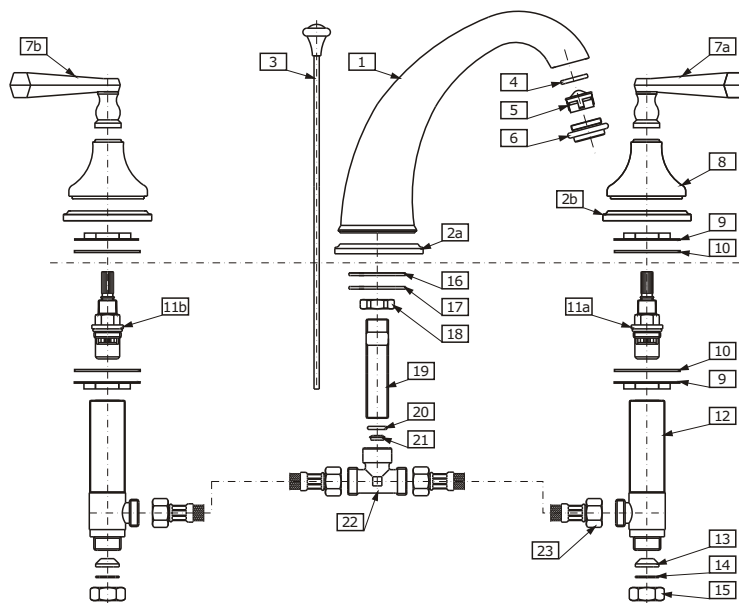
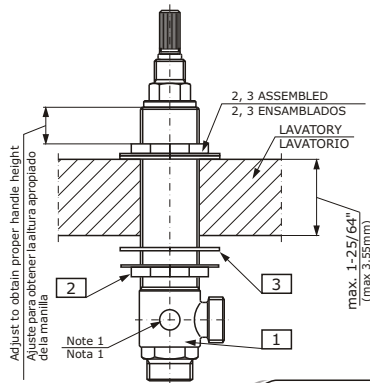

FIG. 1
FIG. 2
- ➔ Spin the bottom valve mounting nuts (2) all the way down the valve and remove the top nut and washers. Insert valve (1) up through the hole in the deck, then drop on the washer (3) and the top mounting nut.
- ➔ Connect hose (23 fig.1) to the outlet connection of the valve. The other end of the hose should be connected to T-connection (22 fig.1) after spout installation.
- ➔ Test the correct distance of valve thread (see fig.2) by temporarily placing the handle pieces over the valve. After you have checked the fitting, remove handle pieces and tighten the mounting nuts (2 fig.2) with a wrench.
- ➔ Remount handle pieces: First handle base (1). Position base over side hole of mounting surface¹⁾. Second screw shroud (2) onto valve until against base. Do not overtighten.
- ➔ Insert LEFT handle (7b fig.1) on the RED marked valve and RIGHT handle (7a fig.1) on the BLUE marked valve.
- NOTE:** In case of faucet with cross handles you should turn cross handles to the left (anticlockwise). Make sure the LEFT cross handle marked (H) is on the RED marked valve and the RIGHT cross handle marked (C) is on the BLUE marked valve.
- ➔ Attach handles with hex socket screws (4). Use provided hex key.